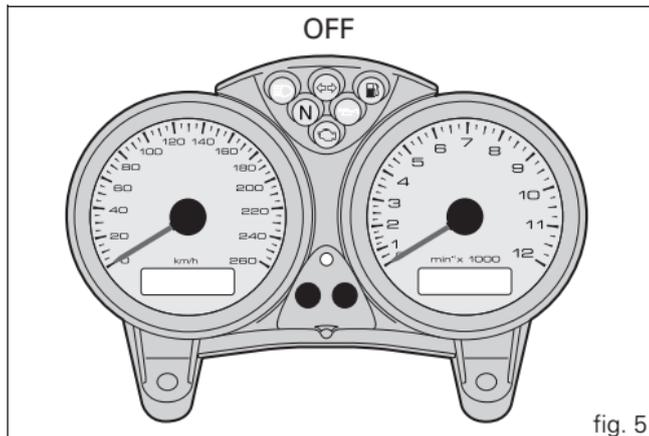
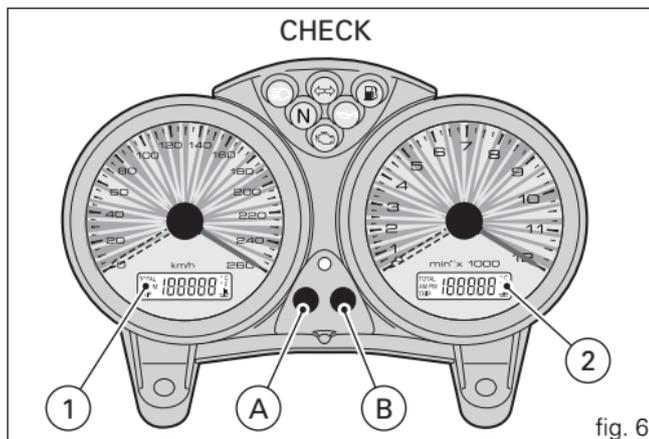

fig. 5
fig. 6
When the engine is switched on (key turned from **OFF** to **ON**), the instrument panel checks all instruments (dials, display, warning lights), see (fig. 5 and fig. 6).
By pressing button (A, fig. 6) with the key turned to ON, you can cycle between display of the trip meter and the odometer and, if the fuel level warning light is on, the fuel reserve trip meter (latter function).
If button (A, fig. 6) is held pressed for more than 2 seconds while the **TRIP** (trip meter) is active, the display is reset (LCD 1).
If button (B, fig. 6) is pressed with the ignition key at ON, the display shows the clock and the oil temperature.
Press (B, fig. 6) for at least 2 seconds and the time will be shown in display (2, fig. 6).
Select AM/PM by pressing button (A, fig. 6). Press button (B, fig. 6) to select the hour setting function. Press (A) repeatedly to change the hour indication. Press button (B) to change to the minute setting function. Press button (A) to increase the minutes; hold the button pressed for more than 5 seconds to increase the rate of change. Press button (B) to exit the clock setting function.
When the fuel level warning light the word "FUEL" will appear on display (2, fig. 6) and the fuel reserve trip meter function will be activated and indicate on display (1, fig. 6) the number of kilometres travelled in reserve preceded by the letter "F" (FUEL).
The appearance of the message "MAInt" on the display (1, fig. 6) indicates that the recommended service interval has expired: this message will be displayed each time the key is turned to "ON" for a period of 5 seconds. When you see this message, you should contact your Ducati dealer or authorised service centre.
Press button (B, fig. 6) within 5 seconds after the ignition key is turned to the ON position to adjust the brightness of the backlight. The brightness changes at each press of the button.